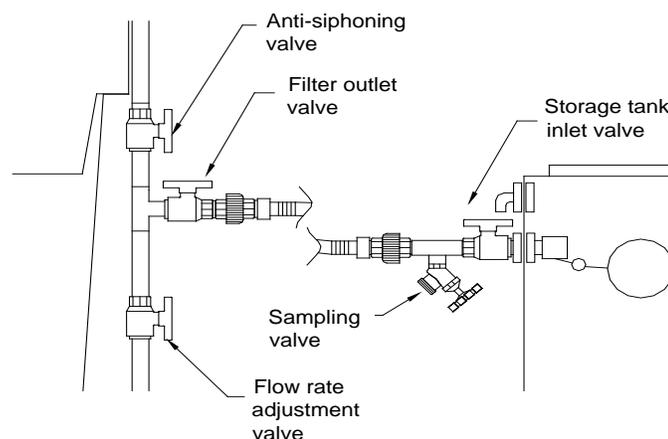

Figure 5-2
Step 5. Open the anti-siphoning valve (figure 5-2). Close the storage tank inlet valve. Open the sampling valve at the storage tank inlet. Be prepared to collect water from this point during the next step.